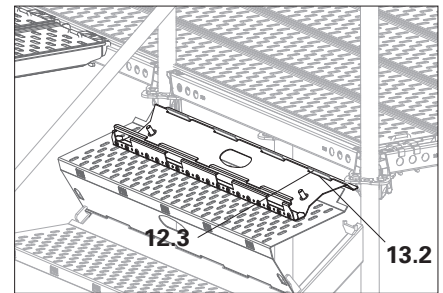

Fig. A2.11b
2. Set the End Step UAE (13) down flat on last step (12). (Fig. A2.11b) The teeth (12.3) of the preceding Step UA must engage in the slots (13.2) of the End Step UAE.